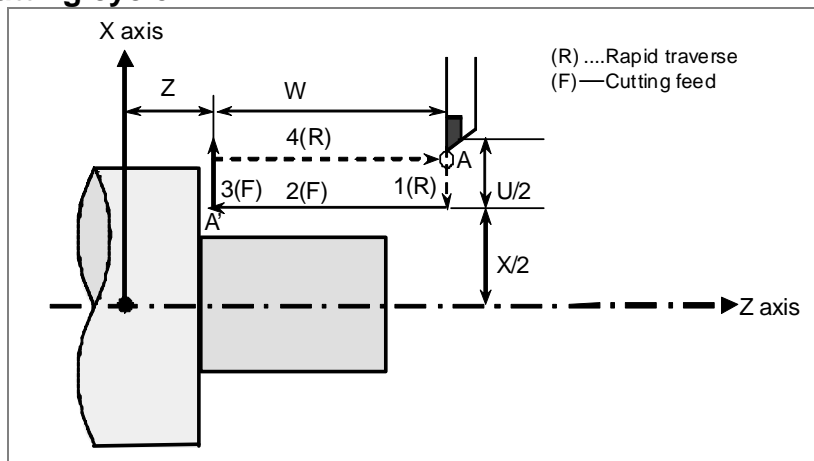

Fig. 5.35.1 (a)
- X_,Z_ : Coordinates of the cutting end point (point A' in the Fig. 5.35.1 (a)) in the direction of the length